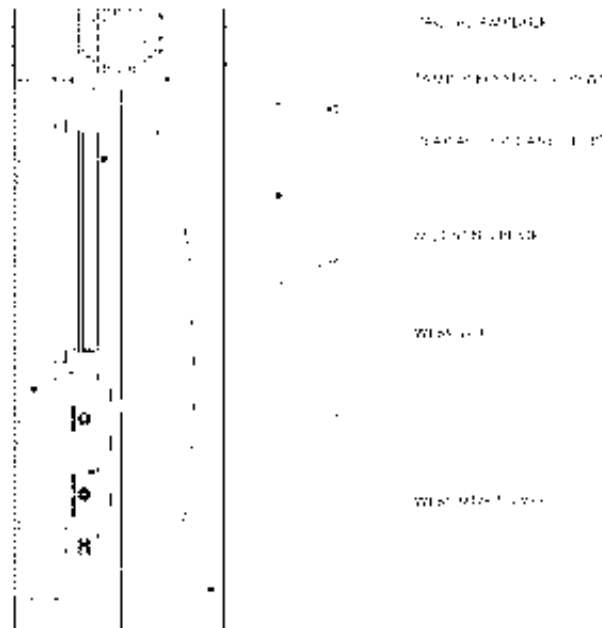

Figure 2. Installing the Paging Amplifier and the WEBS-Volume Control Unit (WEBS-VCU).
4. Remove the rear access panel (top) of the tower and mount the paging amplifier vertically aligned (power connection / speaker output side facing up and audio input side facing down) with the help of four (4) #10-32 screws and nuts provided. Also mount the **WEBS-VCU** on to the upper mounting panel of the tower as shown in **Figure 2**. Connect the paging amplifier audio input channels to the respective audio outputs on the **WEBS-VCU** via RCA audio cables provided. (e.g. Amplifier audio input channel 1 to **WEBS-VCU** audio output 1).